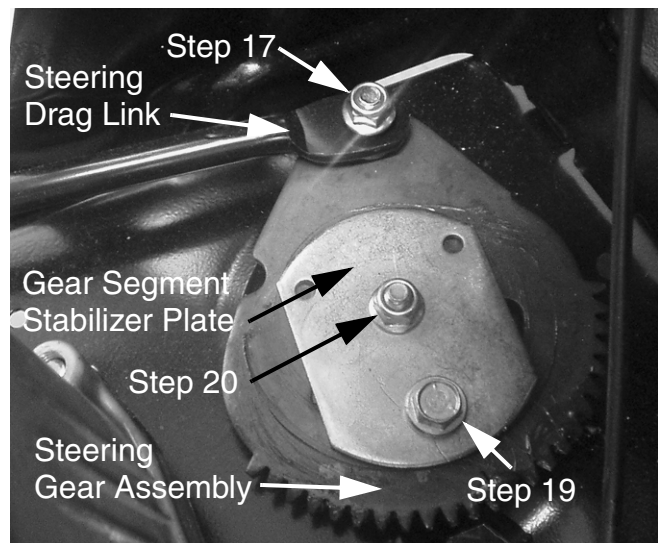

FIGURE 7
17. Using a 1/2" socket and ratchet, remove the hex flange lock nut retaining the steering drag link to the steering gear assembly and slip the steering drag link off of the steering gear assembly stud. See Figure 7.
19. Using a 1/2" socket and ratchet and a 1/2" box/open end wrench, remove and discard the shoulder screw and hex flange lock nut shown in Figures 7 and 8.
20. Using a 1/2" socket and ratchet and a 1/2" box/open end wrench remove the screw, bell washer, and flange lock nut shown in Figures 7 and 8. Discard the flange lock nut only.